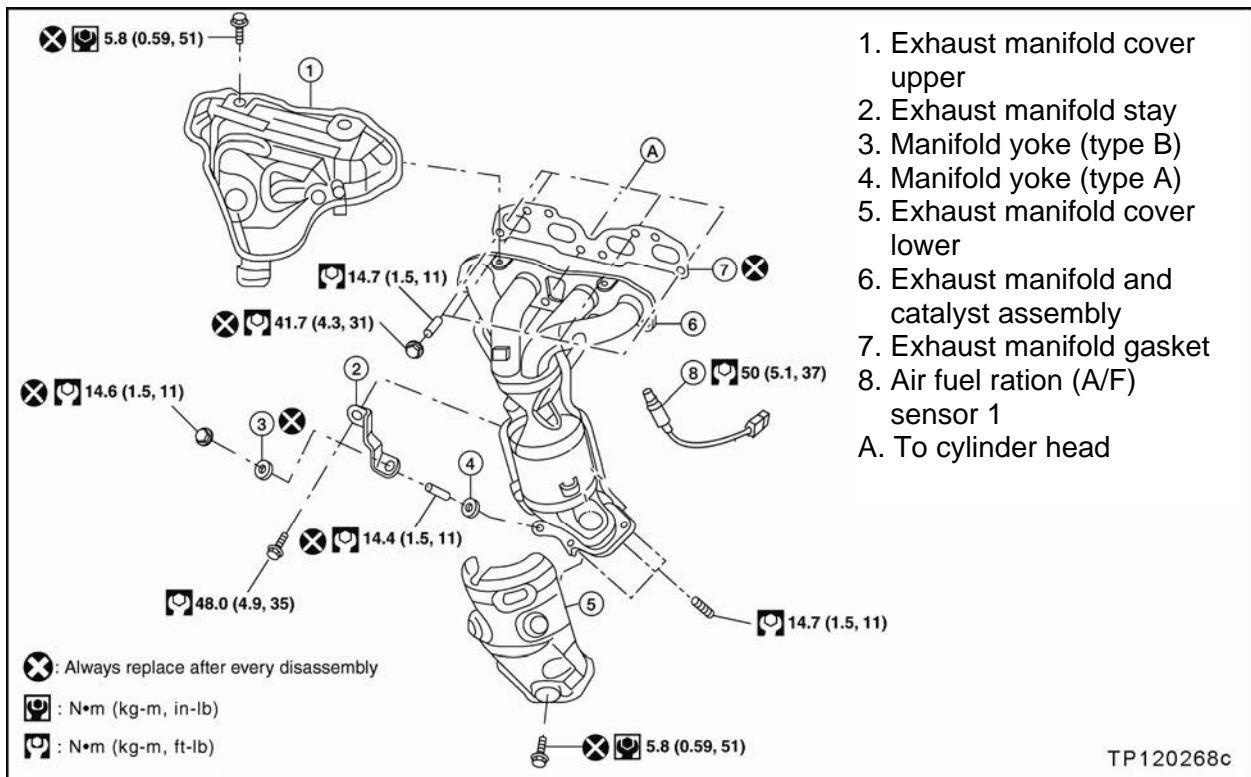

Figure M8
12. Remove the exhaust manifold as follows (refer to Figure M8).
- Refer to Figures M8 - page 17, M7 - page 16, and T3 - page 12 for torque specifications.